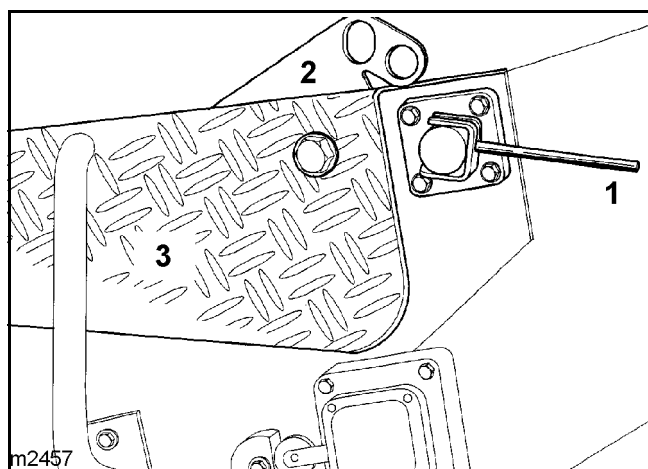

Fig. 196 Covering for hopper
1. Unlock the safety bolt (1) (**Fig. 196**).
2. Lift the cover (3) until the bolt can be slid into one of the holes on the locking bar (2).